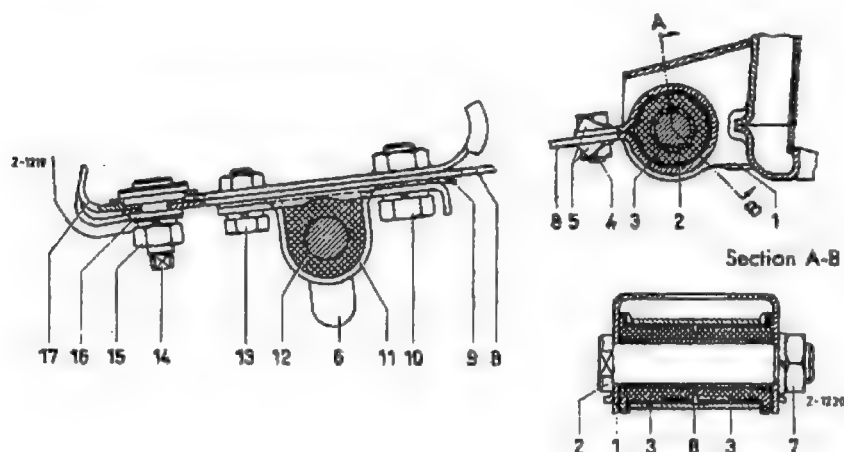

Fig. 40-3/4
The caster can be adjusted by swivelling the front axle support on the eccentric bolts at the flat springs for the front axle longitudinal support (Figs. 40-3/4 and 4a). Differences in the caster between the left and right sides can be compensated by turning the threaded bolt (7) on top of the steering knuckle (Fig. 40-3/5).